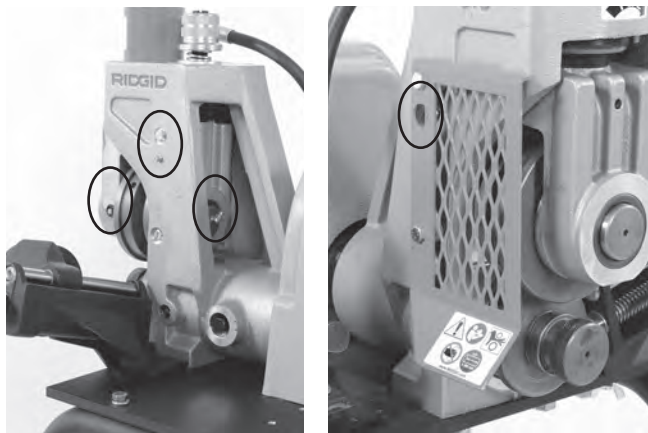

Figure 18 – Grease Fittings
- Lubricate the groover at grease fittings (See Figure 18). Add grease until a small amount pushes out.